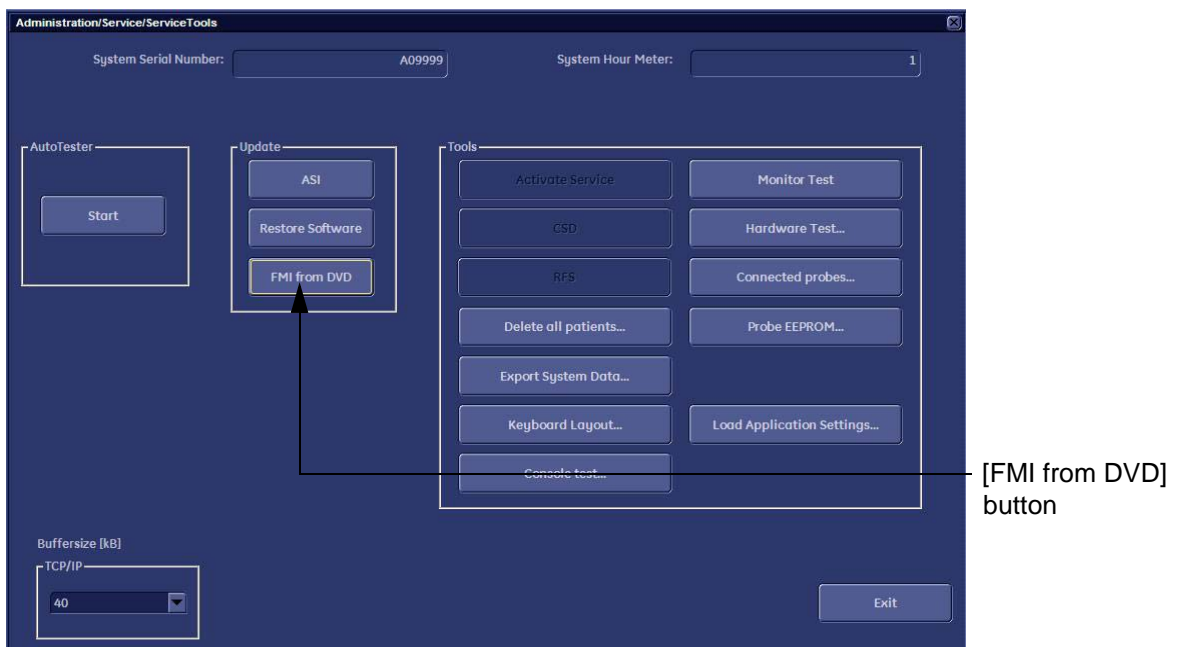

Figure 8-10 Service Tools
- 9.) Click the FMI FROM DVD button (see: Figure 8-10 on page 8-12) for updating the System Software.